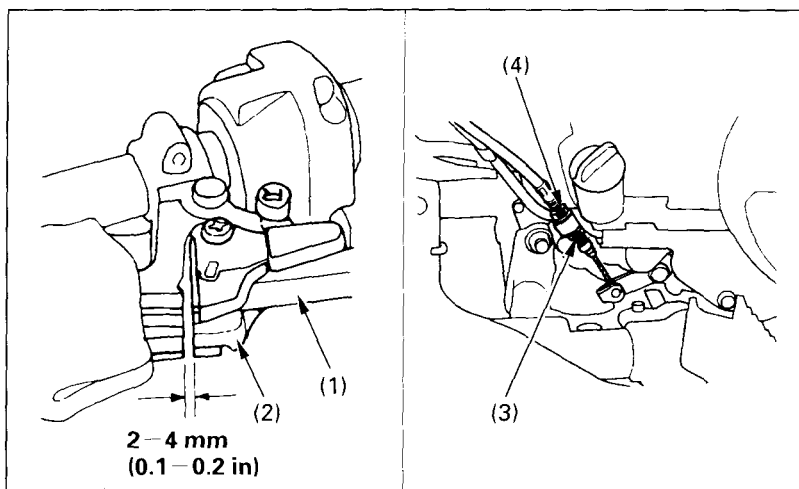

Fig. 4-17 (1) Rear brake lever
Measure the reverse assist lever (2) free play. Free play, measured at the lever (2) end near the cable (Fig. 4-17), should be approx: